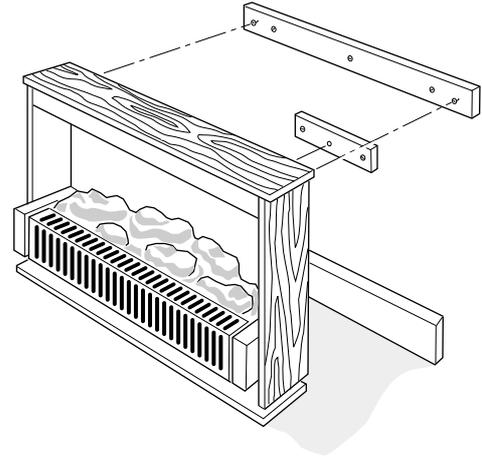

Fig. 6
- provide suitable battens on the wall to which the fixing points of the heater may be secured to provide clearance for the thickness of the skirting board – see Fig. 6.